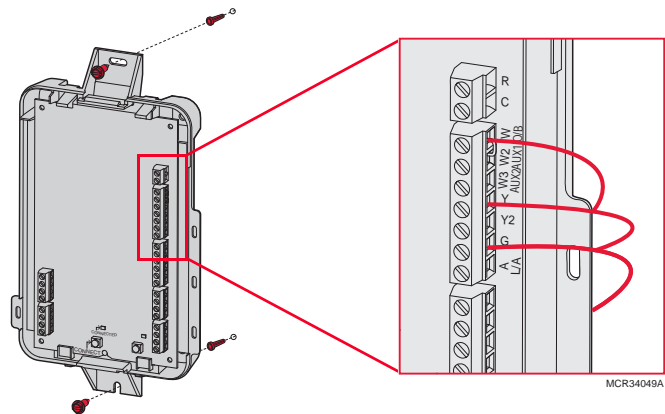

Fig. 7.
2. To wire the EIM, strip 1/4" insulation, then insert wires (see Fig. 7). For wiring diagrams, see “Wiring” beginning on page 117.